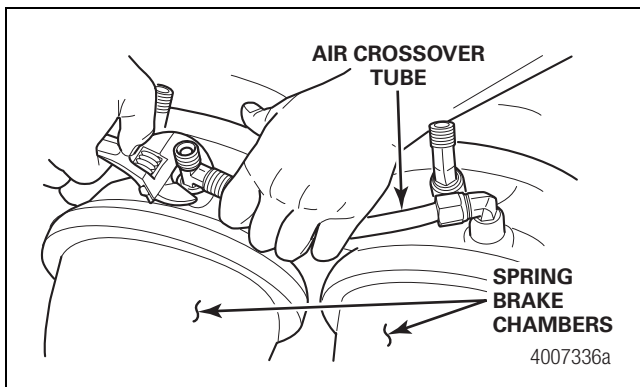

Figure 30
- Loosen the fitting and disconnect the air crossover tube between the two spring brakes. Figure 30.